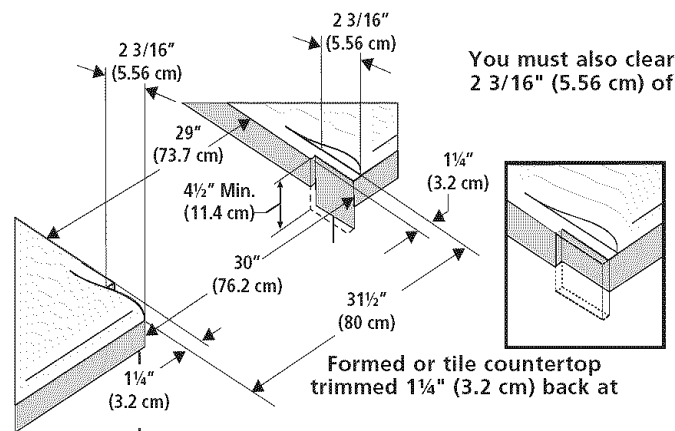

Figure 8
- 3.3 **IMPORTANT** • For existing cutout width of **29" (73.7 cm)** (Figure 8):